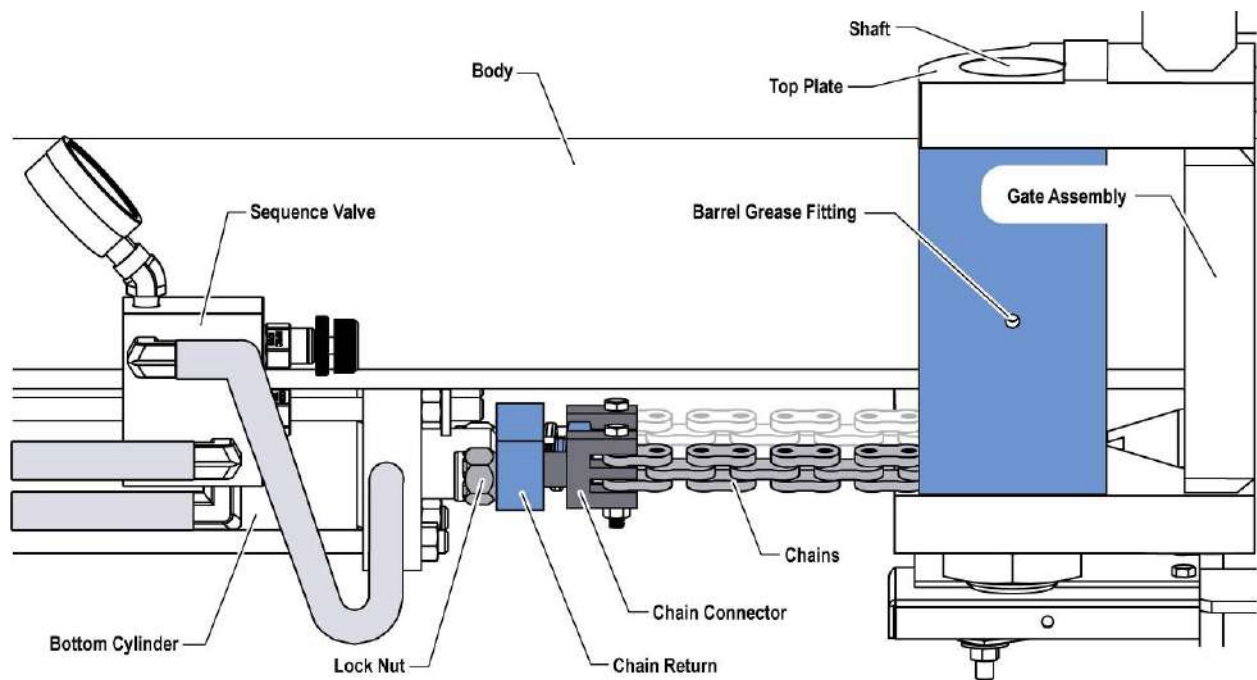

Figure 10. Back Gate Alignment
3. If one of the chains has more slack, tighten the lock nut which fastens the chain connector to the chain return on the cylinder rod end. Both chains should be equally snug so that the gates work evenly. See Figure 10.